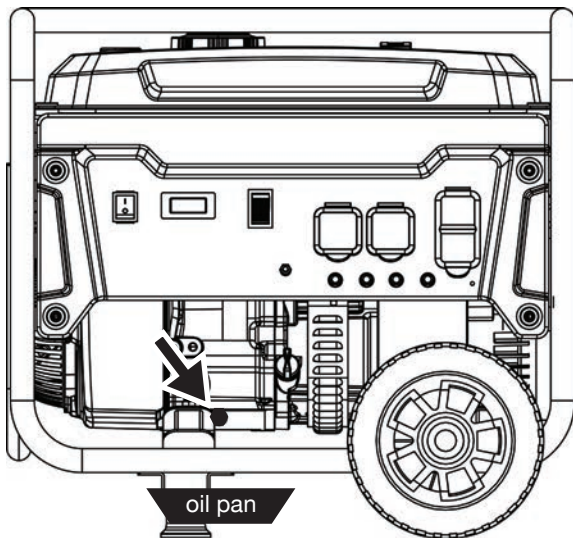

Figure 20 - Oil Drain Plug
4. Place oil pan (or suitable container) under the oil drain plug (see Figure 20).
6. Remove the oil drain plug (see Figure 20). Once removed, place the oil drain plug on a clean surface.